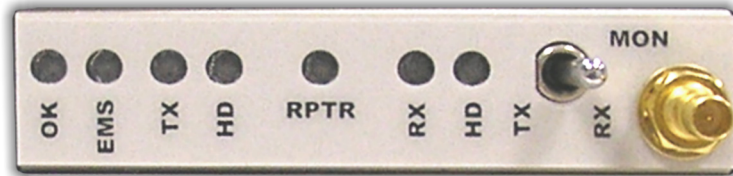

Figure 7. DLC100 Status LEDs and Monitor Connector
You monitor the operation of the DLC100 using the status LEDs and monitor jack located on the front panel of the module (see Figure 7).
Table 5 describes the different states of the DLC100 status LEDs as shown in Figure 7.
1. Connect the monitor cable to the mini 75 Ohm SMB monitor jack (MON) located on the DLC100 front panel (see Figure 7).